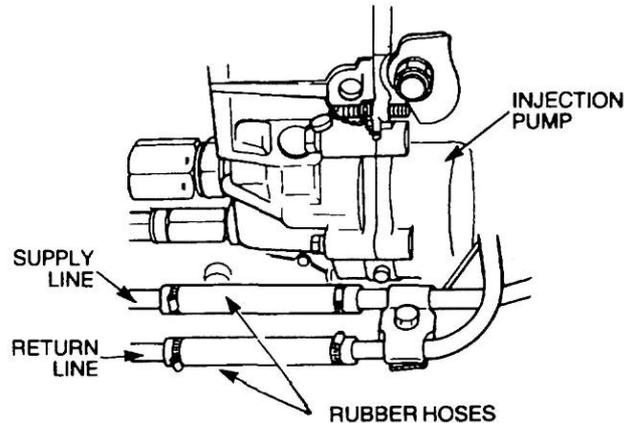

Figure 14 Installation of the Fuel Lines
- t. Remove the plastic plugs and connect the fuel supply and fuel return lines at the rubber hoses on the fuel injection pump (Figure 14).